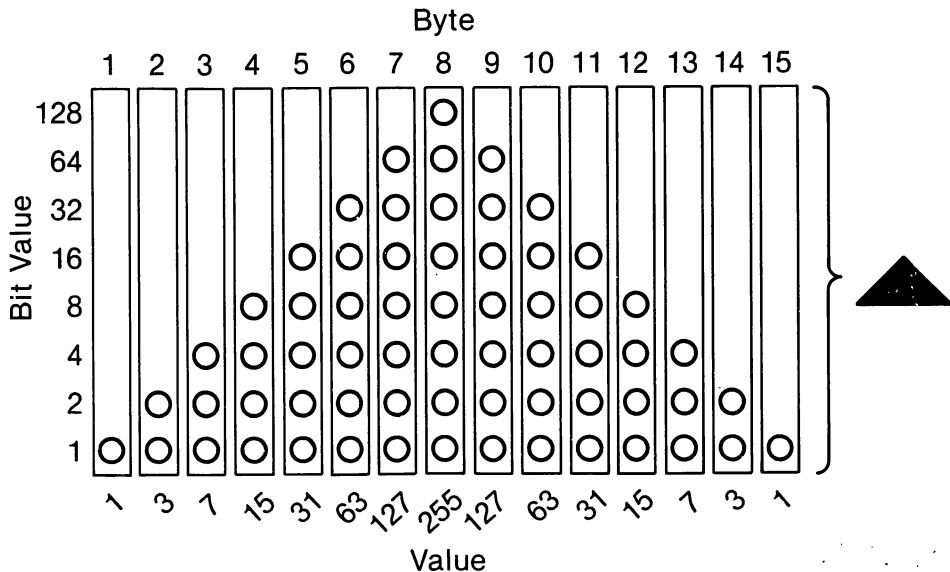

Figure 6-1. Bit patterns that print a pyramid.
Each byte defines a bit pattern that corresponds to the eight vertical dots of one position along the line. The low bit (1) corresponds to the bottom of the column formed, and the high bit (128) corresponds to the top. For example, to print a pyramid, first send a byte in which only the bottom bit is turned on, then a byte with the bottom two bits turned on, etc. After the eighth byte, reverse the series. The value of the first byte is 1, then 3 (1 + 2), then 7 (1 + 2 + 4), then 15 (1 + 2 + 4 + 8), etc. Figure 6-1 diagrams this pattern.